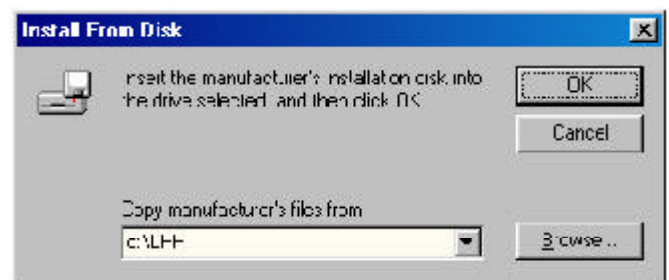

Fig. 4.10
Step 8 Click **OK** to accept the location of the LPR file. See *Fig. 4.10*